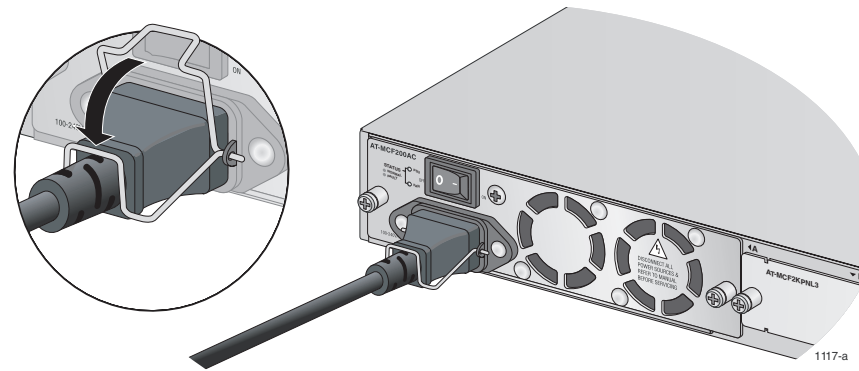

Figure 8. Positioning the Power Cord Retaining Clip
- Lower the power cord retaining clip to secure the power cord to the chassis. Refer to Figure 8. This is to prevent the power cord from being inadvertently disconnected from the unit.